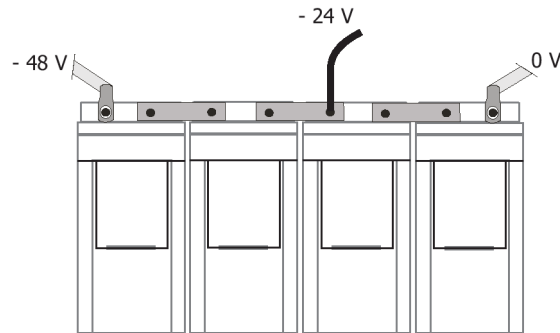

Figure 4-15 2-block Symmetry Measurement (for illustration only)
2. For 2-block battery symmetry measurement fix one wire of the symmetry cable to the cable lug in the mid-point of the battery string, see Figure 4-15.